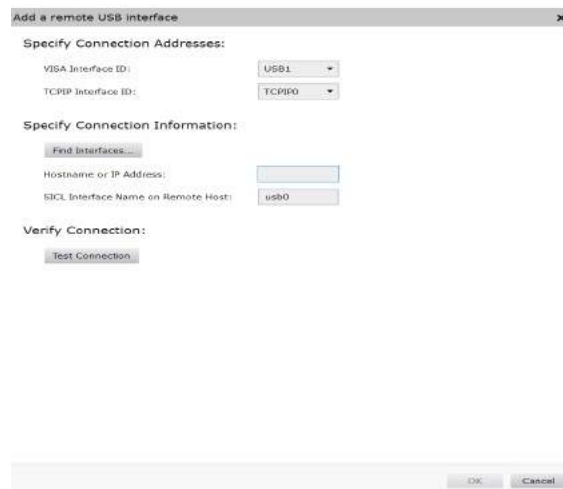

Figure 2-11 Remote USB interface dialog box
- 4 The **Add a remote USB interface** dialog box is shown in Figure 2-11.